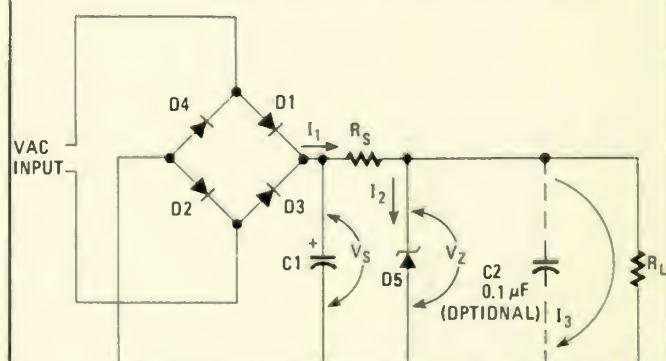

FIG. 13—ZENER-REGULATED DC power supply provides constant voltage to R_L . Capacitor $C1$ provides basic filtering keeping V_s always higher than V_Z .
Figure 13 shows a Zener-regulated DC power supply. Resistor R_L represents the load applied to the power supply (i.e. $V_Z \div I_3$). Capacitor $C1$ is the regular filter capacitor used in any DC power supply. A good rule of thumb is to make $C1$ not less than $1000\text{-}\mu\text{F}$ per ampere of load current, or $500\text{ }\mu\text{F}$ (whichever is larger).
Capacitor $C2$ in Fig. 13 is used to suppress avalanche *hash* noise produced by the Zener diode. In many circuits that noise is negligible, so $C2$ may be deleted.
Designing a Zener-diode regulator circuit as seen in Fig. 13 is a four-step process: (1) Determine the operating condition (explained below); (2) select the Zener potential; (3) select
Design a Zener diode voltage regulator such as Fig. 13 to provide a 6.8 VDC to a circuit that draws 75 milliamperes. The power source is an automobile battery, which normally varies 12 to 15 VDC as the engine speed changes from an idle to high RPM.